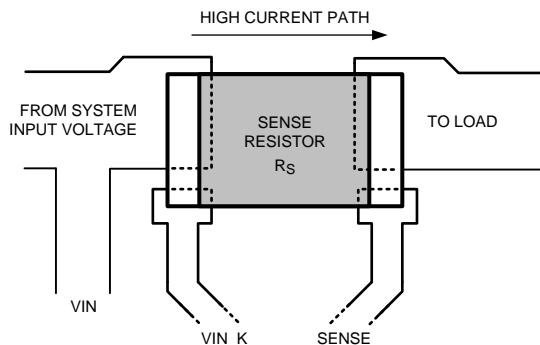
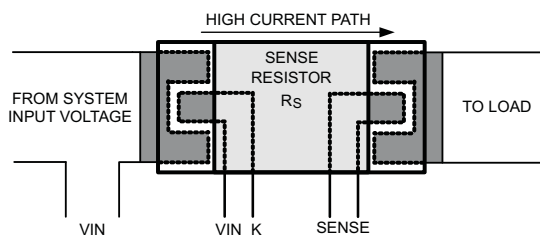

Figure 14. Sense Resistor Connections, Edge Sensed
Figure 15. Sense Resistor Connections, Centered Sensed
Connections from R_S to the LM5056/LM5056A should be made using Kelvin techniques. In the suggested layout of Figure 14 the small pads at the lower corners of the sense resistor connect only to the sense resistor terminals, and not to the traces carrying the high current. With this technique, only the voltage across the sense resistor is applied to VIN_K and SENSE, eliminating the voltage drop across the high-current solder connections.
If the PCB layout and resistor pads allow for it, the connection shown in Figure 15 gives optimal kelvin sensing performance.
- The sense resistor (R_S) should be placed close to the LM5056/LM5056A. Connect R_S using the Kelvin techniques shown in Figure 14 or Figure 15.